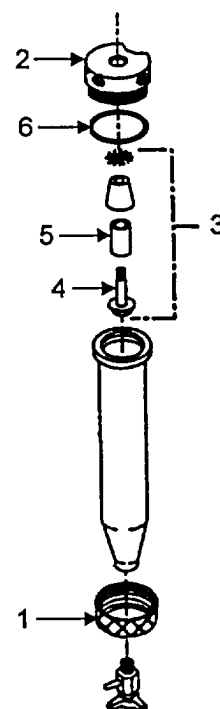

FIGURE 3-12. INTERMEDIATE FILTER
1. Removing the Sintered Filter. Refer to figure 3-12.
b. Unscrew threaded collar (1). Remove filter head (2) and sintered filter assembly (3). Remove the center screw (4) to remove the filter element (5). Inspect O-ring (6) for damage. Replace if necessary.